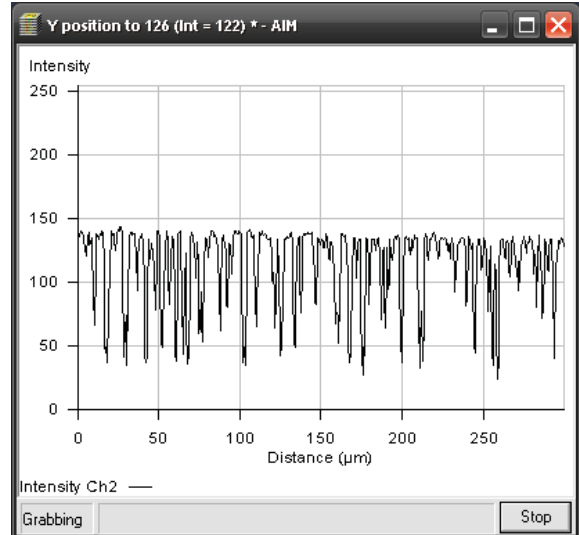

Fig. 4-129 Pinhole adjustment scan window
- Pinhole adjustment will then run automatically and the Scan window will appear (see Fig. 4-129). The adjusting procedure takes approx. 3 min.